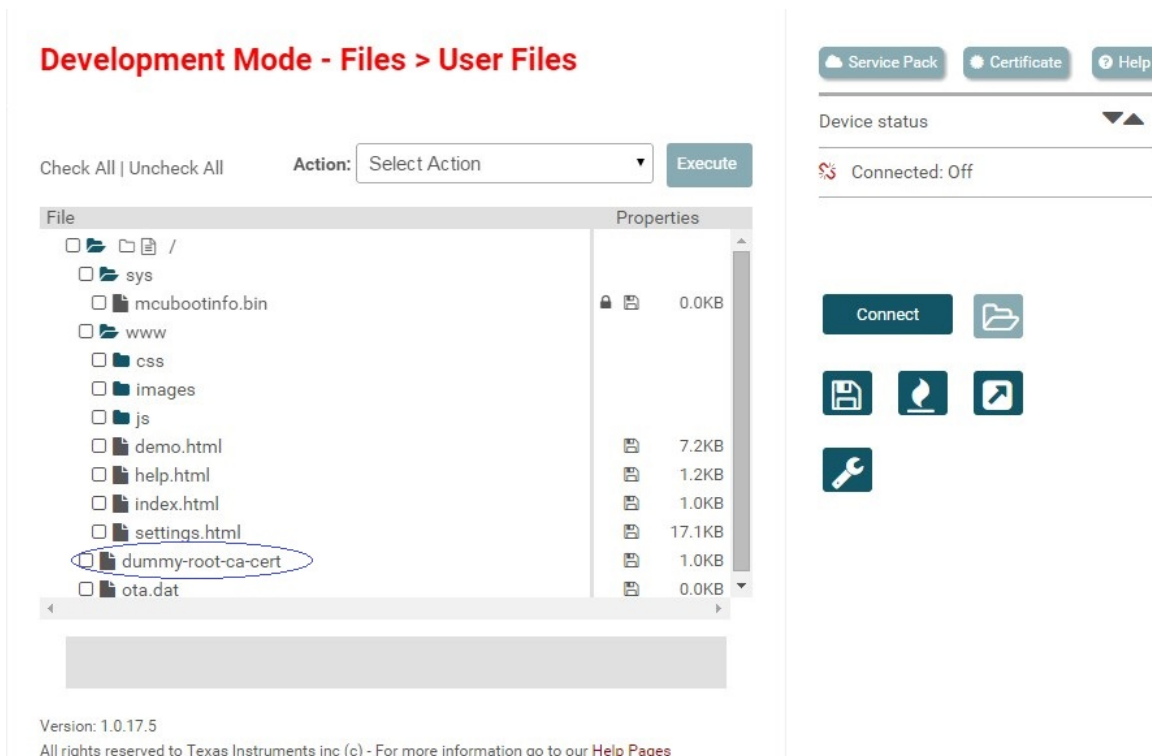

Figure 42. Root Certificate in UniFlash Project
4. Browse to see all files under Files → User Files on the left side tree. As shown in Figure 42, a dummy-root-ca certificate is used in case an MCU image is added to the project.